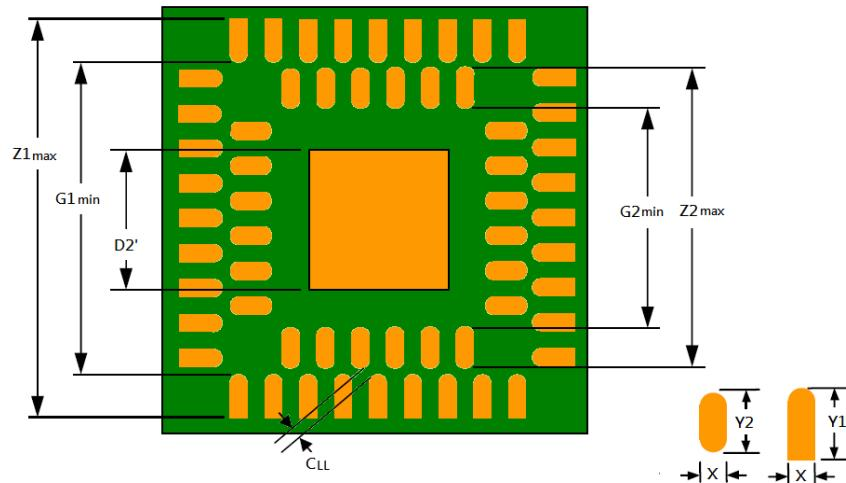

Figure 7 DRQFN PCB footprint
According to supplier Amkor's recommendation; the land width (X) for both inner and outer rows is needed (refer to Figure 7 above). Based on history of single row QFN, a lead width (X) of 0.280mm was chosen for 0.500mm pitch. Outer row land pattern dimension $Z_{1\max}$ is calculated using standard IPC methodology and expressed in terms of nominal body size dimension: